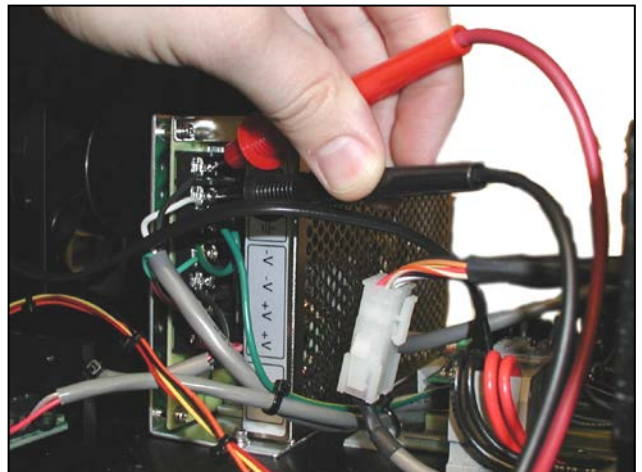

Figure 3-25. Probing 120 VAC on Power Supply
11. Probe the L and N contacts on the Power Supply with a DVOM; it should display approximately 120 VAC (Figure 3-25).